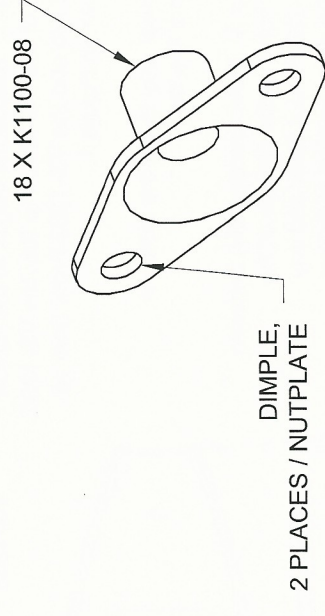

FIGURE 3:
Step 8: Dimple the nutplate attach rivet holes using a 3/32 dimple die as called out in Figure 3.